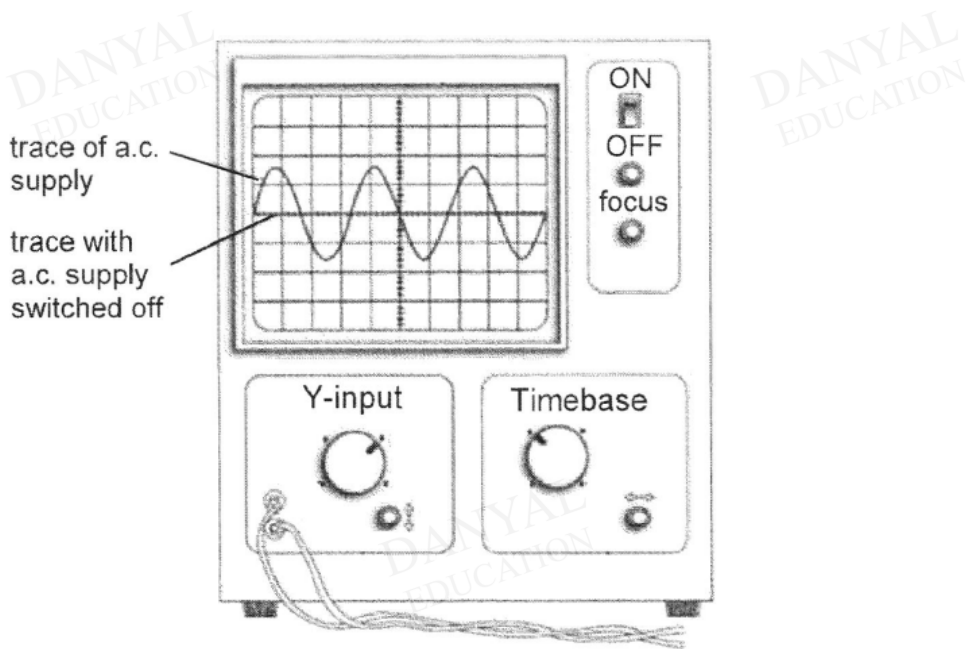

Fig 11.2
- (b) Fig. 11.2 shows a cathode-ray oscilloscope (c.r.o.) being used to measure the period and voltage of an a.c. supply.
Using Fig. 11.2, determine the peak voltage and period of the a.c. supply.